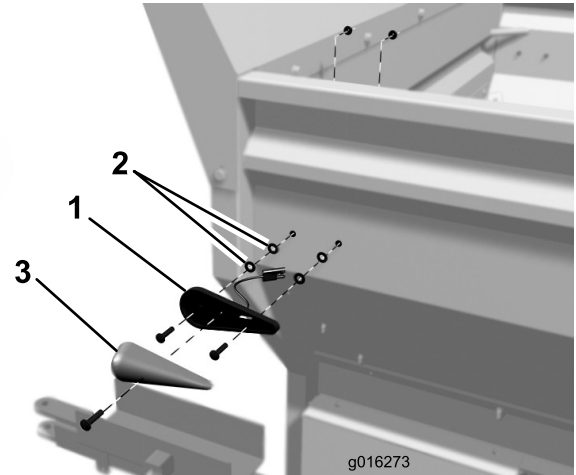

Figure 2
3. Secure a light mount to the side of the hopper with (2) 1/4 x 1 inch machine screws, (4) .281 x .625 washers and (2) 1/4 inch flange nuts. Position the components as shown in Figure 2. Install (2) washers onto each screw and make sure they are positioned between the light mount and the hopper.
4. Secure the signal lens to the mount with a screw (Figure 2). Repeat the procedure on the right side of the hopper.